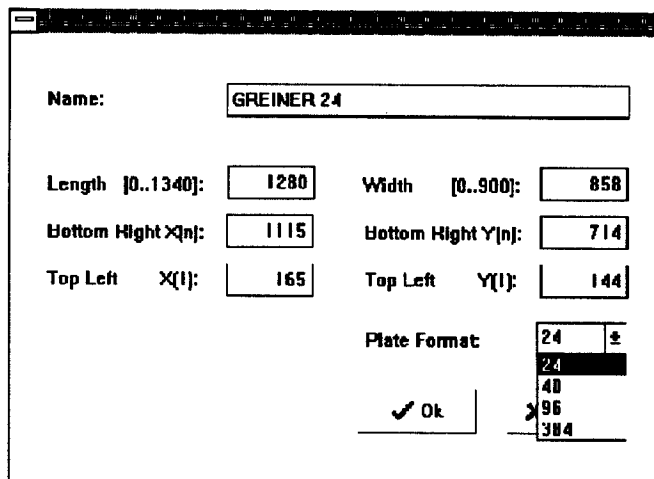

Fig. 6.5. Screen to define the mechanical dimensions of microplates.
- New** proceeds to microplate screen (Figure 6.5) to create a new microplate name with no pre-defined dimensions
- Edit** proceeds microplate screen (Figure 6.5) to change a defined microplate
Microplate screen (Figure 6.5) defines the plate format (384, 96, 48, or 24 wells) and the mechanical dimensions of microplates, in steps of 0.1 mm.